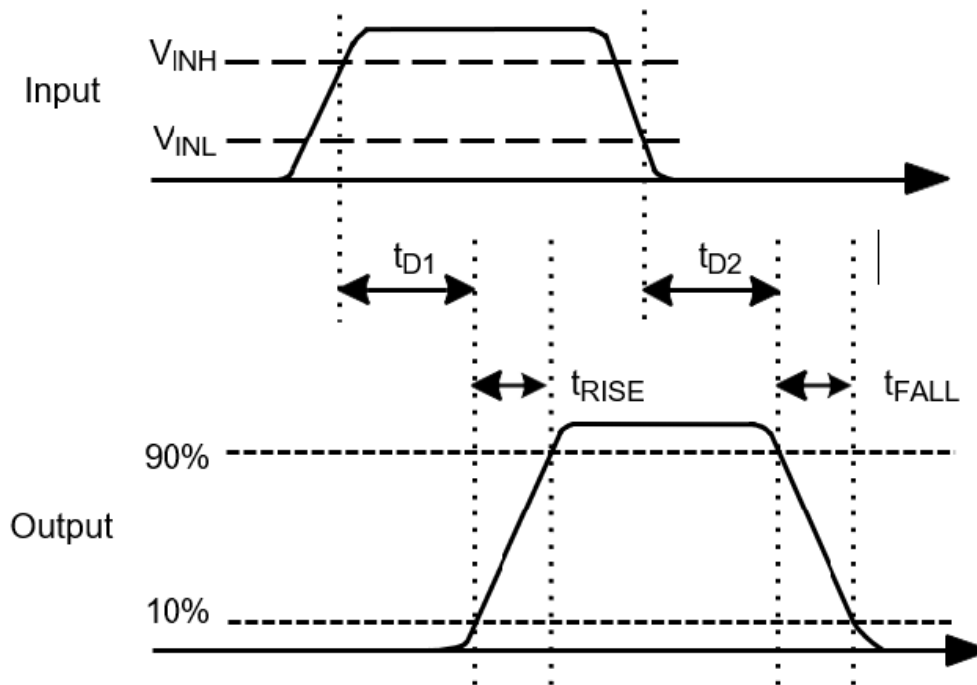

Figure 4. (EN HIGH or Floating)
12. See Timing Diagrams of Figures 4 and 5. The propagation values are Guaranteed by Design.